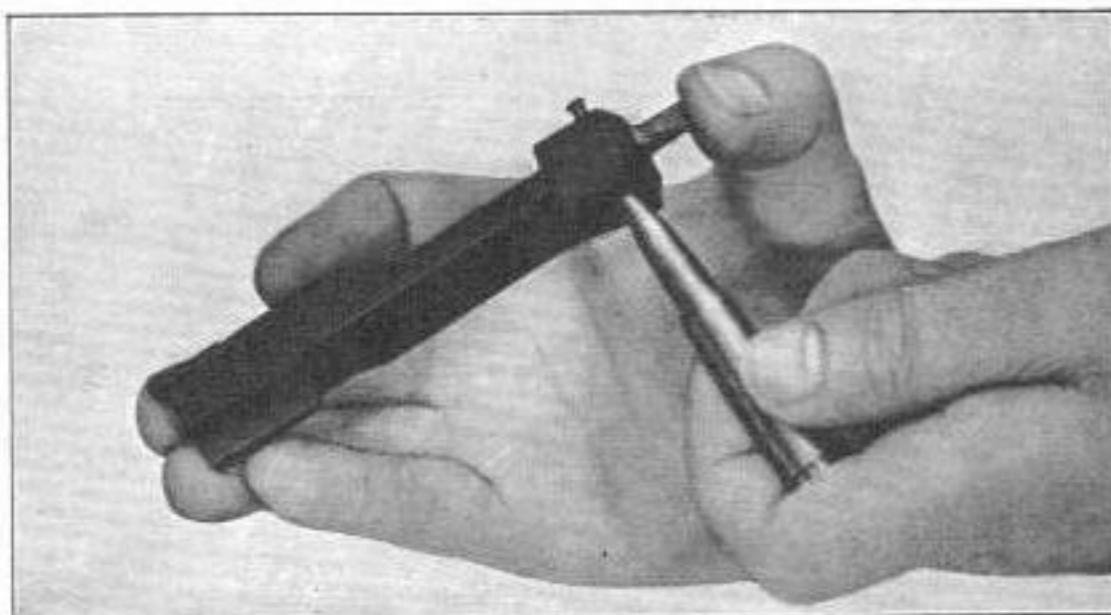

Fig. 40
d) To remove the firing pin, press on the rear end of the firing pin, push out the retaining pin; if the pin does not fall out easily, use the nose of a cartridge (fig. 40).